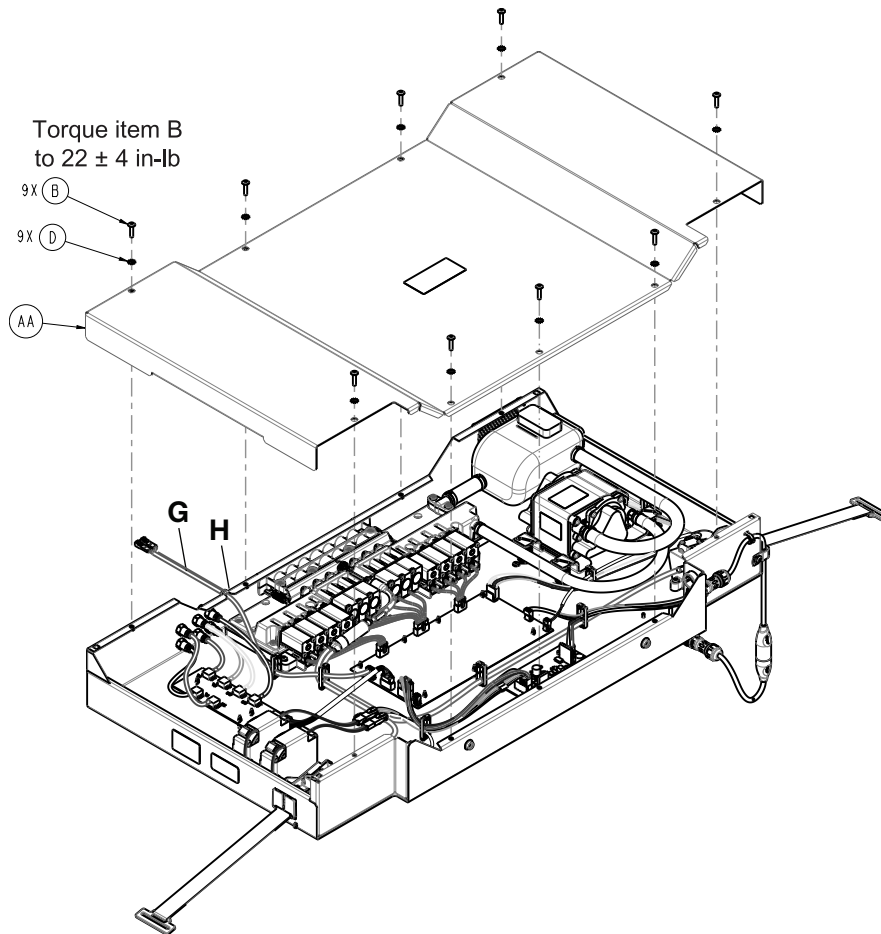

Figure 10 – Foot box cover
13. Using a T15 Torx driver, remove the nine ground screws (B) and the nine star washers (D) (Figure 10). Save the ground screws and the star washers.
- When you reinstall, check the LAL fan cable (G) and grommet (H) are in place before you replace the foot box cover (Figure 10).
14. Remove the foot box cover (AA). Save the foot box cover.